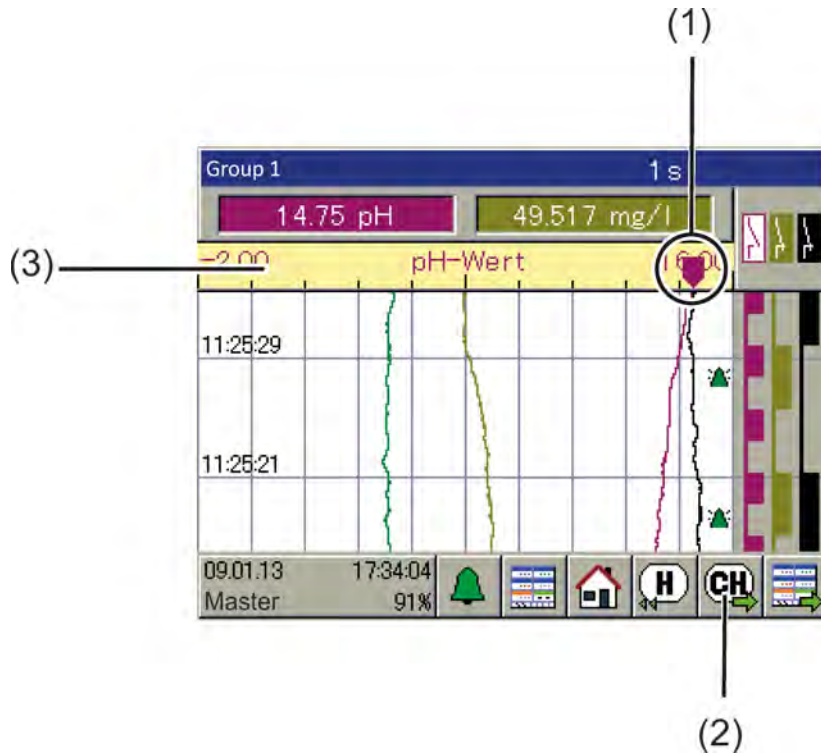
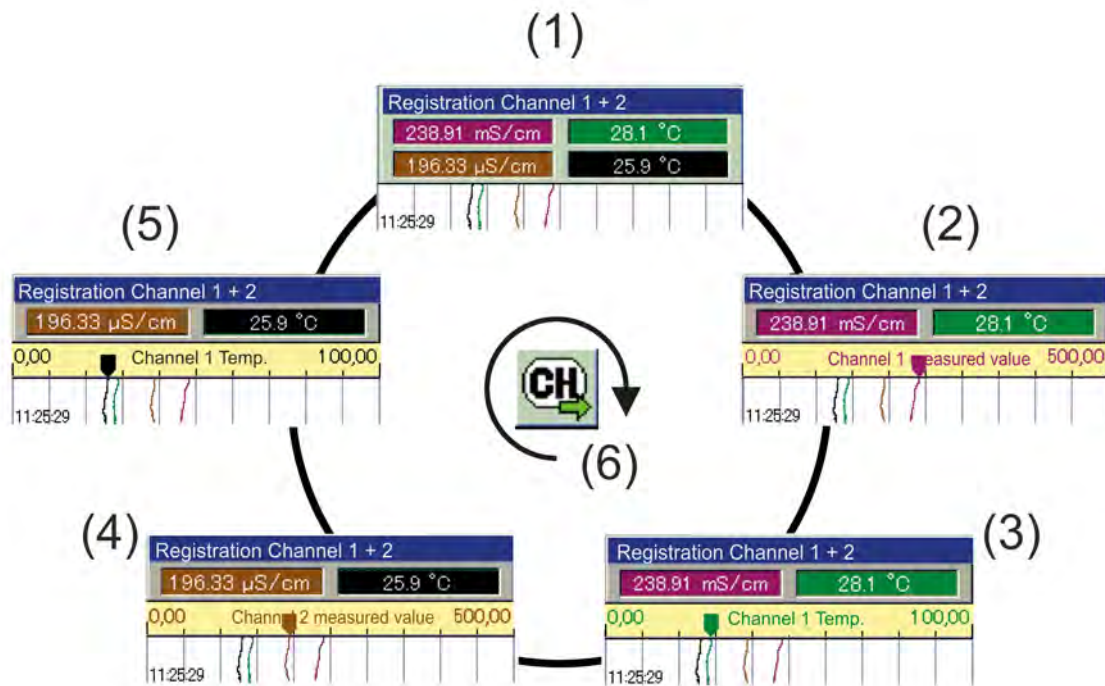

Fig. 50: Pen view
Fig. 51: Browse pen views
- (1) 3-channel binary tracks diagram (visualisation of the recorded signal states of up to 3 binary values)
- (2) Button "channel handoff" to scroll the pin views (graphs a scale with recorder pin) for the individual channels 1 to 4. See Fig. 50 or Fig. 51 .
- (3) **[3], only with extra registration:** "History" to view all stored measured data and events button. See Chapter 9.5.2 'History function' on page 118 .
- (4) 4-channel line recorder chart (visualisation of the recorded data of up to 4 analogue values and display of events as a symbol)
- (5) Display field for the numerical display of the current measurements of the analogue channels 1 to 4
Use the "Channel step-on" (see Fig. 50 (2)) are highlighted in the individual measurements of the respective group.